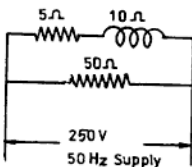

Fig. NE 11.36
- 11.36 The circuit shown in Fig. NE 11.36 is connected across a 200 V, 50 Hz supply. Calculate: